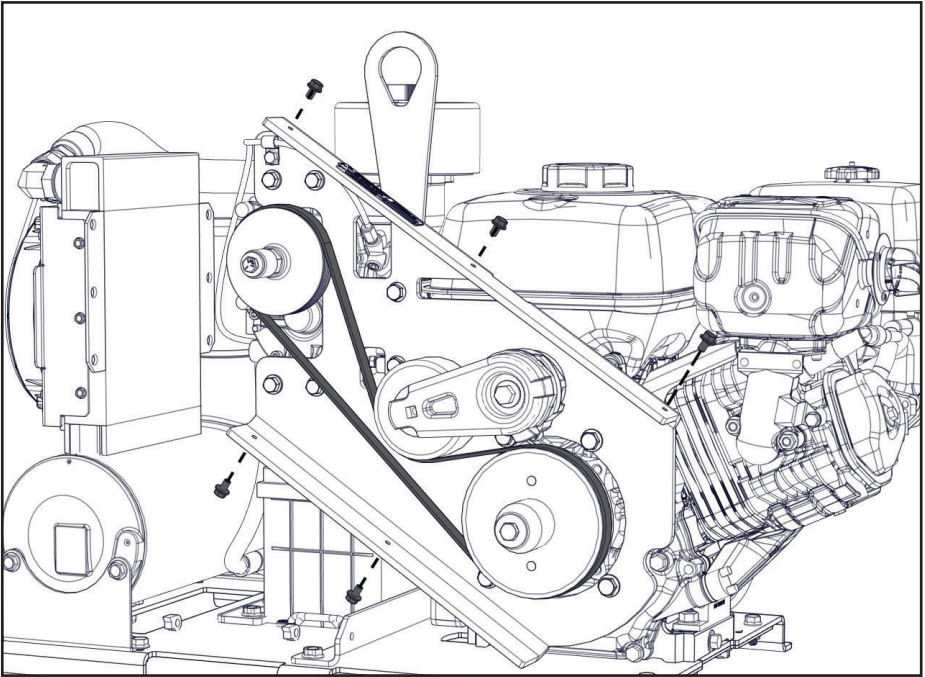

Figure 65 — Remove the belt guard
- ☐ Remove the (x5) fasteners from the belt guard and remove the belt guard (Figure 65).